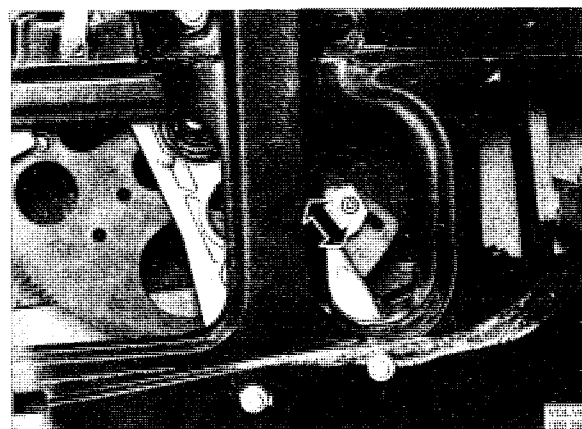

Fig. 8-22. Stop lug, upper position
2. Run up the window to the stop and release the stop lug, using a 5 mm setscrew wrench, Fig. 8-22. Run up the window as far as it can go. Adjust the stop lug against the tooth segment and tighten up the lock bolt.